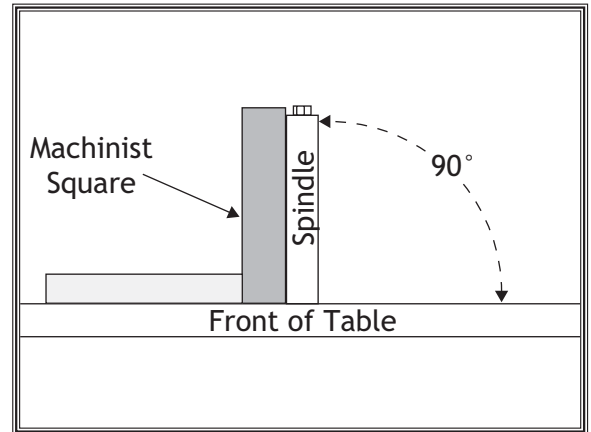
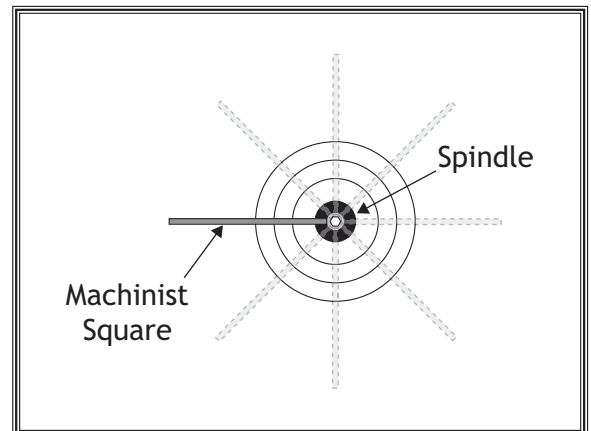

Figure 56. Illustration of using a machinist square with the table and spindle.
Figure 57. Illustration of machinist square at different directions around the spindle.
To reduce the risk of kickbacks and to increase the quality of cuts, it is important that the table and spindle are perpendicular to each other in all directions. Use a machinist's square or other precision square when checking/adjusting these components to ensure accurate results (see Figures 56 & 57).
5. Position a machinist square flat on the table and up against the spindle (see Figure 56) and in all directions (see Figure 57)—the spindle and table should be perpendicular to each other in all directions.